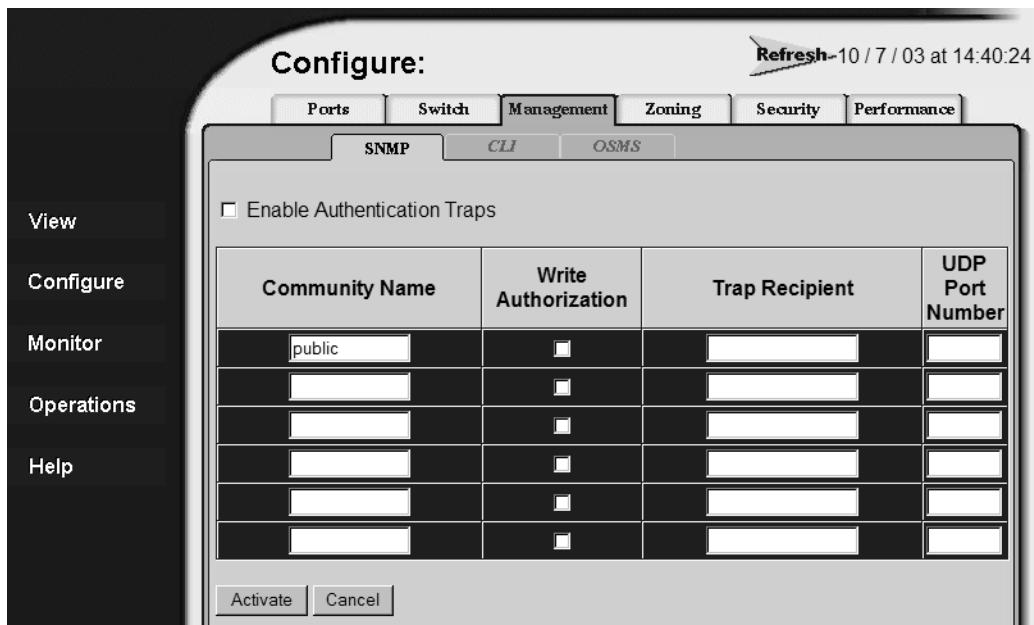

Figure 21: Management page—SNMP tab
1. Choose **Configure > Management** to displays the **SNMP** tab (Figure 21).